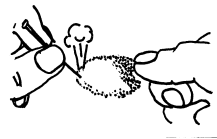

FIG. 4
5. (a) carefully finish trimming material around emblems, locks etc. To eliminate bubbles, puncture the material at one end of the bubble with a pin and press out entrapped air with thumb or squeegee moving toward the puncture (see fig. 4).